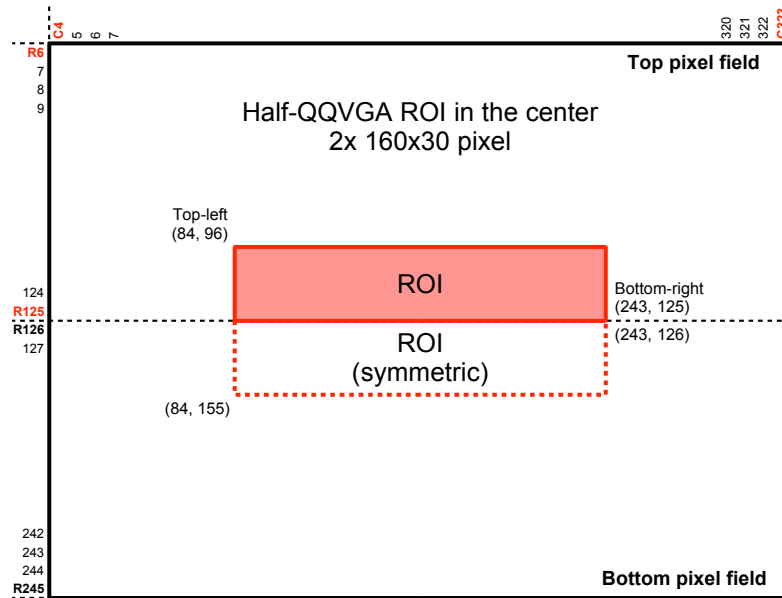

Figure 33: ROI for Half-QQVGA: 2 x 160 x 30 pixel
- 8-bit mode: Transfers the 8 MSB bits of the pixel data with 1x DCLK. Refer to Table 16 and Figure 33.
Note: The epc635 emulation is detailed in Figure 33 and chapter 11.4.3.